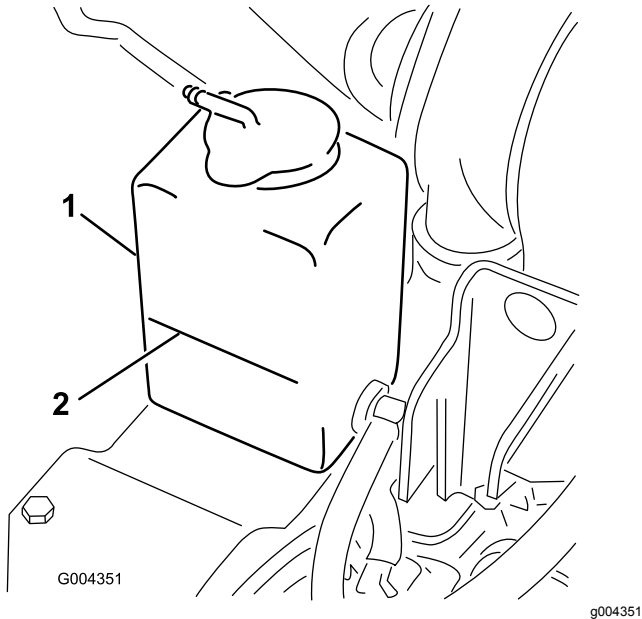

Figure 50
3. Check the coolant level of coolant in the expansion tank (Figure 50).
- I. Add coolant into the expansion tank until it reaches the Full mark on the side of the tank (Figure 50).